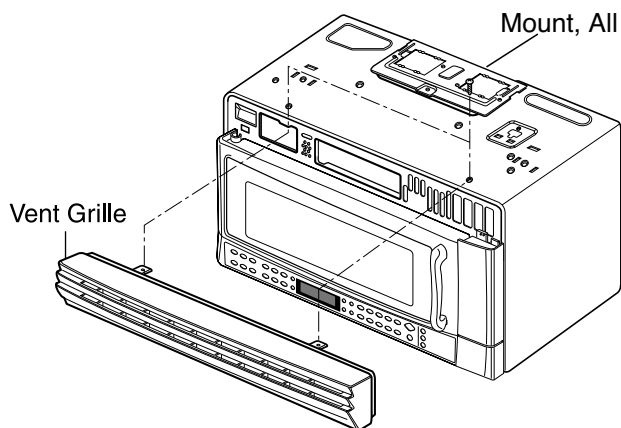
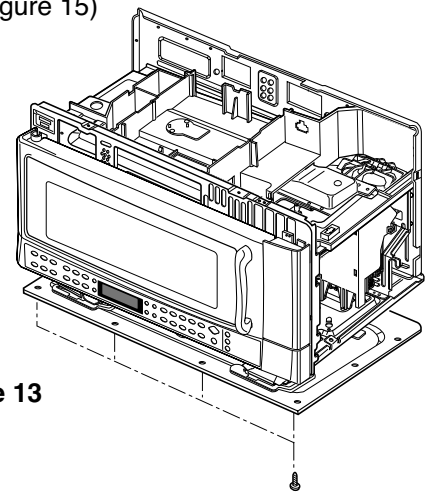
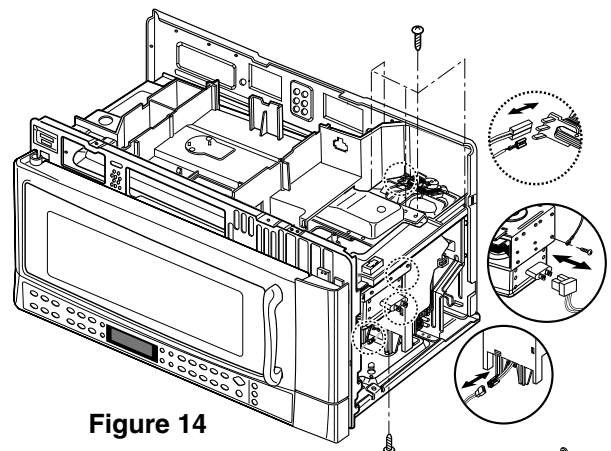
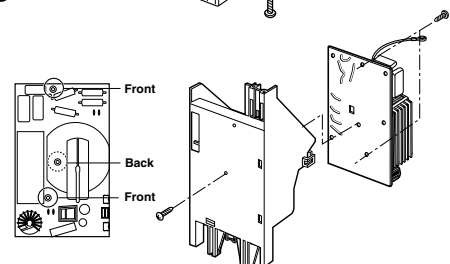

Figure 11
Figure 13
Figure 14
Figure 15
(Figures 11 Through 12)
- (1) Remove the vent grille by loosening two screws. (Figure 11)
- (2) Remove the outcase. See page 7-5.
- (3) Remove four tap tite screws securing the magnetron to the wave guide.
- (4) Remove the magnetron VERY CAREFULLY.
(Figures 13 Through 15)
- (3) Remove the base plate by loosening four screws. (Figure 13)
- (4) Disconnect two leadwires of the fan motor assembly.
- (5) Disconnect the leadwire of the inverter PCB and H.V. cable of the magnetron.
- (6) Remove the earth wire screw.
- (7) Remove three screws securing to duct assembly and two screws securing to fan guide. (Figure 14)
- (8) Remove the screw securing to inverter module assembly.
- (9) Push the inverter guide hook and out the inverter module assembly lifting up duct assembly.
- (10) Open the upper inverter guide.
- (11) Remove three screws securing to PCB and pull out PCB. (Figure 15)